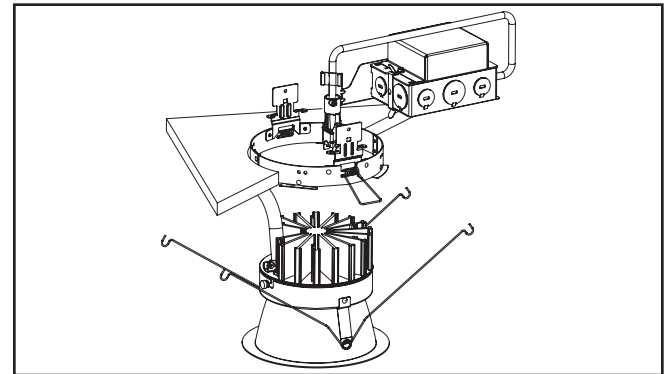

Figure 10.
- Install the LED engine and trim assembly by inserting the torsion springs into the spring receivers located inside the housing (Figure 10.).